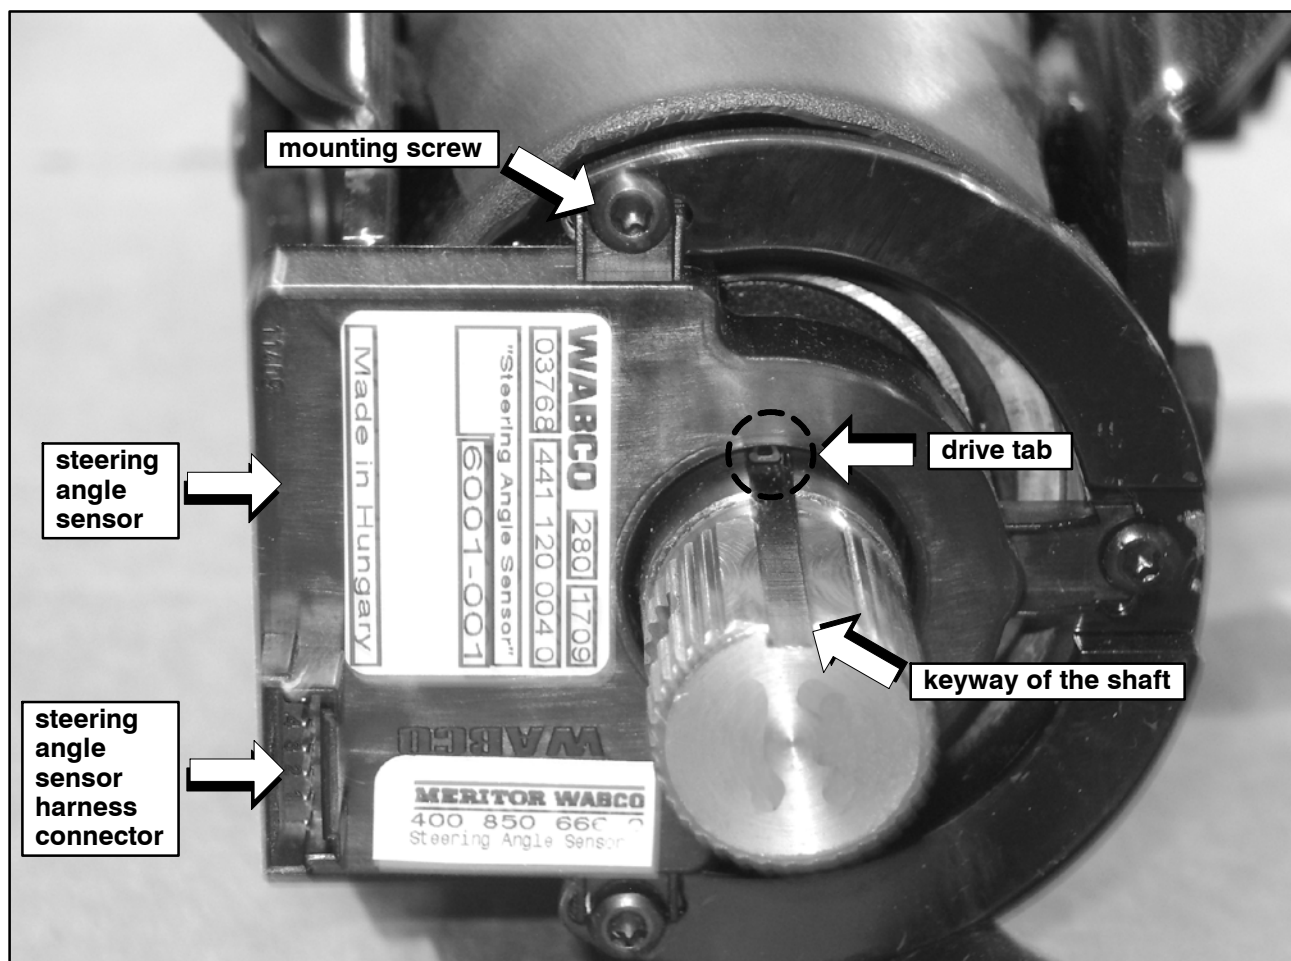

Figure 6.
6. Locate and note the orientation of the steering angle sensor wiring harness connector ( refer to Figure 6 ). Carefully disconnect the steering angle sensor harness.
10. Remove and discard the three ( 3 ) steering angle sensor mounting screws ( refer to Figure 6 ).
11. Remove and retain the existing steering angle sensor ( refer to Figure 6 ), to be returned to MCI.
12. Apply the supplied lubricant to the mating surface of the new steering angle sensor drive tab and the keyway of the shaft ( refer to Figure 6 ).